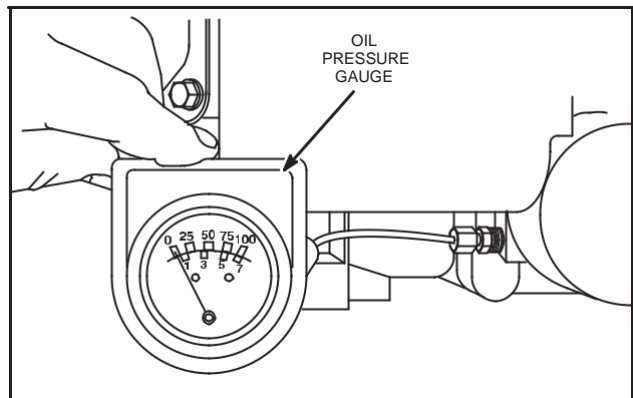

Fig. 6 – Checking Oil Pressure
3. Install oil pressure gauge, Fig. 6.